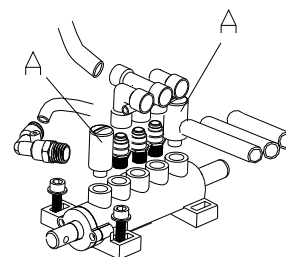

Fig.13
2. Loosen the valve Muffler (A) which belong to Jaws open and close Pedal and Bead Breaker Pedal; **(A of Fig.13)**
3. Clean the silencers with compressed air, please replace it referring to the spare parts list if it is damaged. **(Fig.13)**